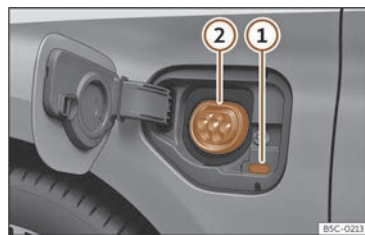

Fig. 56 Behind the battery charging cover on the front left-hand side: Charging socket
>>> Fig. 56
- With the vehicle unlocked, the battery charging cover opens when it is pressed >>> Fig. 56.